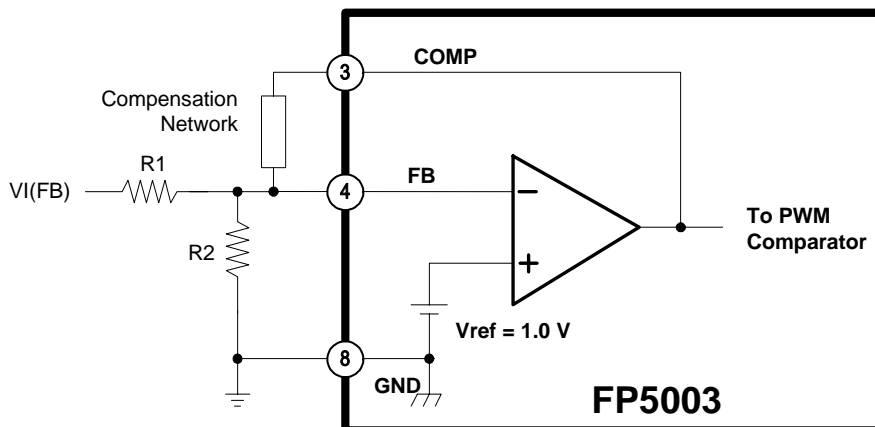

Figure 19. Error Amplifier with Converter Feedback Resistors
Note1:Function Diagram figure 19
The error amplifier compares the feedback voltage from dc-dc converter output to the 1.0V reference and generates the error signal for the PWM comparator. The relation between VI(FB) and **FP5003** error amplifier pins are shown below (see Figure 19).